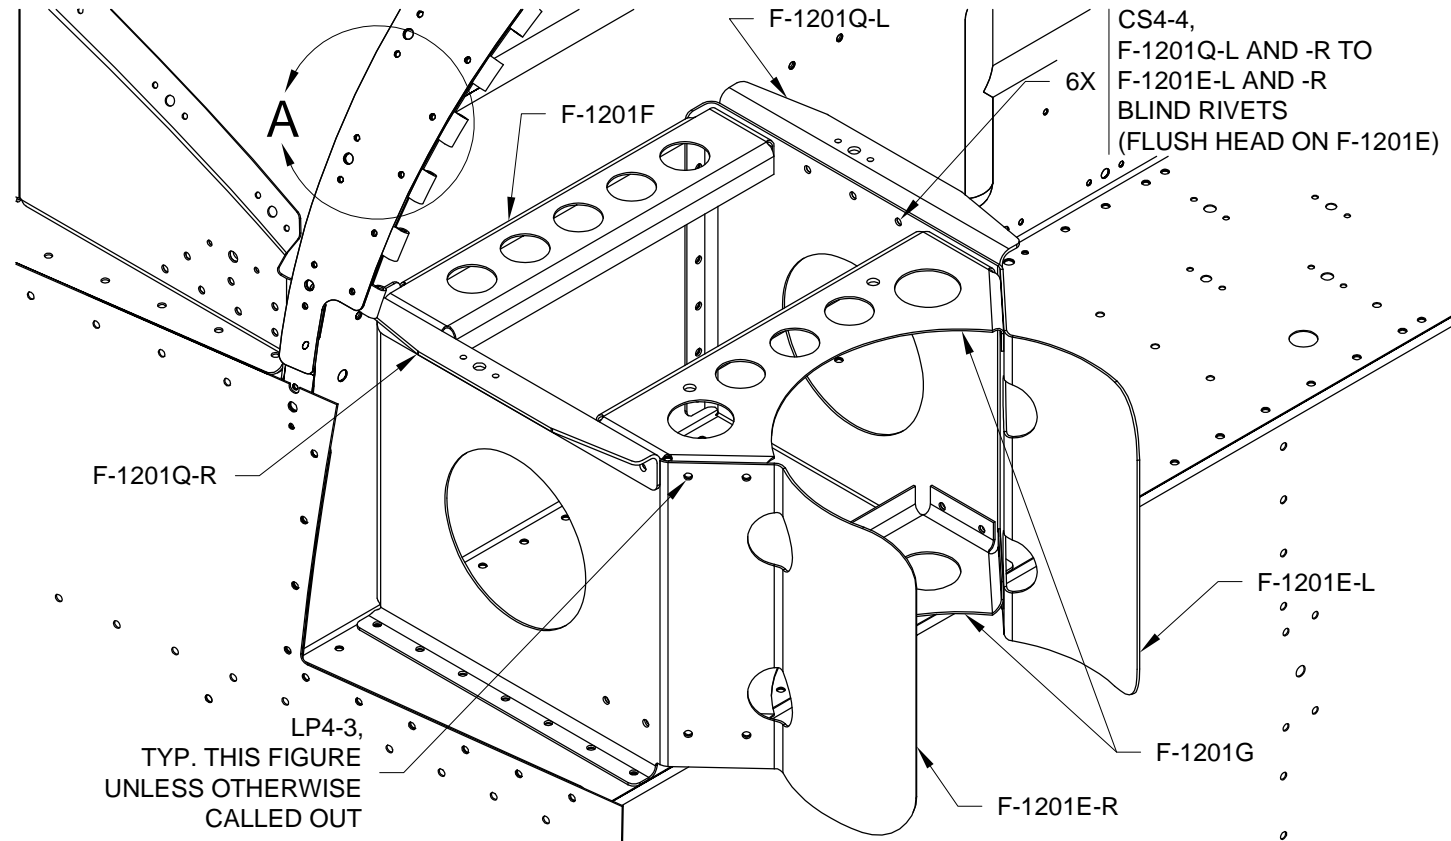

FIGURE 1: ADDING THE OIL TANK BRACES
Step 1: Dimple the three holes in each F-1201E-L and -R Oil Tank Side Bracket that will receive flush fasteners as called out in Figure 1.
Step 2: Rivet the F-1201E-L and -R Oil Tank Side Brackets to the F-1201A Firewall Upper. Rivet the F-1201F Battery Mount Brace to the firewall upper. See Figure 1.
Step 3: Rivet the F-1201F Battery Mount Brace, F-1201Q-L & -R Battery Mount Angles and F-1201G Oil Reservoir Brace to the F-1201E-L and -R Oil Tank Side Brackets. Rivet a second oil reservoir brace to the side brackets. See Figure 1.